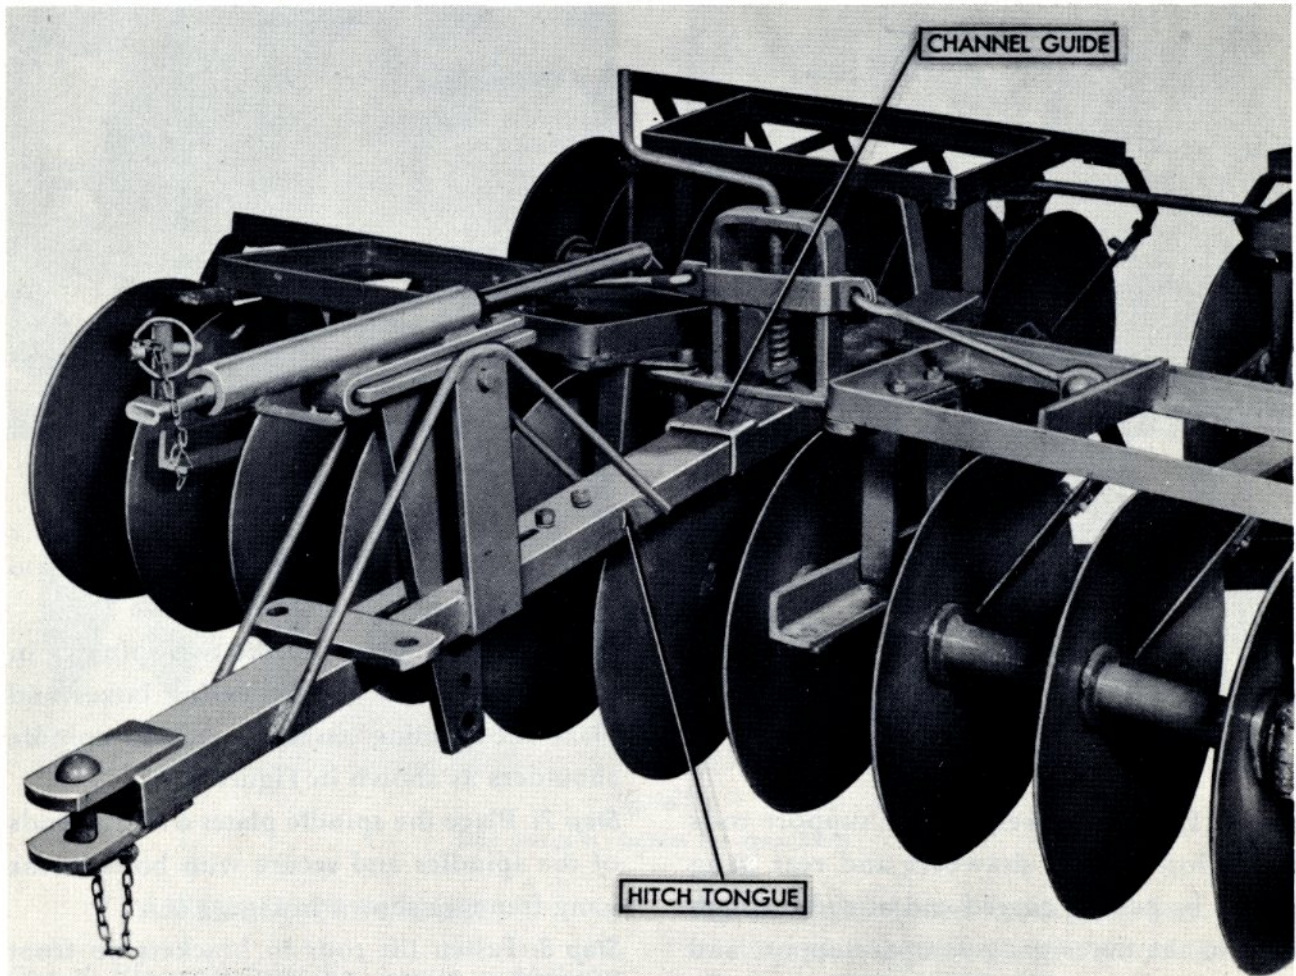

Figure 10
Step 9: Slide the hitch tongue assembly into the channel guide of the leveling assembly. See Figure 10.